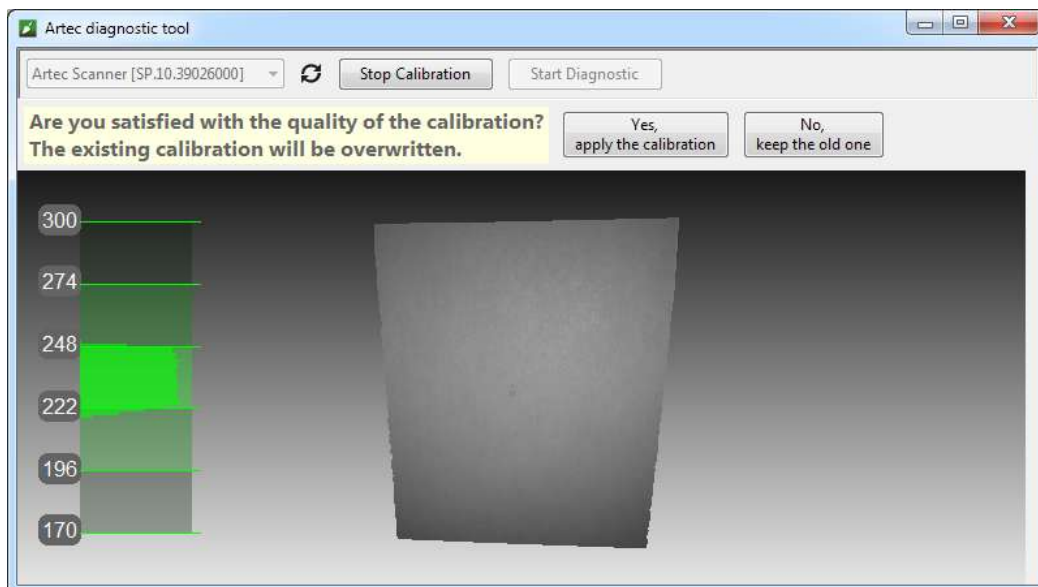

Figure 167: Assessing calibration results.
11. Click *Yes, apply the calibration* if no holes appear on the surface and you are satisfied with the reconstruction results. To reject the new calibration, click *No, keep the old one* (see Figure 167).